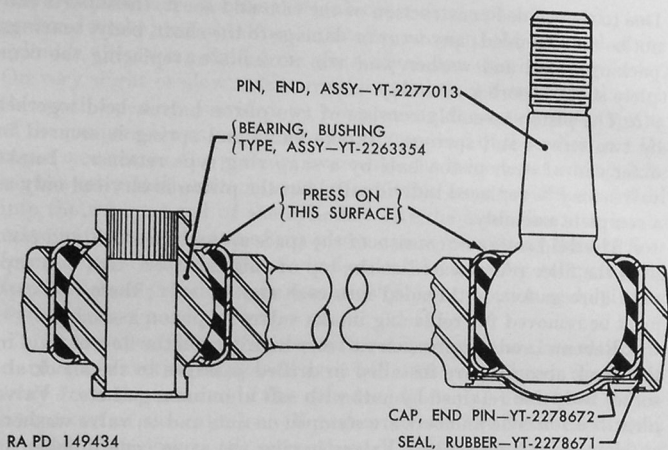

Figure 207. Sectional views of front torque rod ends.
*a. Bearing Removal.*—Using a driver to exert force on rounded edge of bearing case at point shown in figure 207, press bushing type bearing assembly out of torque rod end.
*b. Bearing Installation.*—Press new bushing type bearing assembly into torque rod end, using a driver which will exert force on rounded edge of bearing case at point shown in figure 207. Press bearing in until it is centered in torque rod end.
*c. End Pin Removal.*—Using a small sharp chisel, cut off eight staked lugs which secure end pin cap in torque rod end. Using a driver over end pin which will exert force on rounded edge of bearing case at point shown in figure 207, press end pin assembly, rubber seal, and end pin dust cap out of torque rod end. File stake marks back flush with inner circumference of torque rod end.
*d. End Pin Installation.*—End pin assembly (fig. 207) must be installed in torque rod end with tapered end pin opposite the side having the stake marks. Press new end pin assembly into torque rod end, using a driver over end pin which will exert force on rounded edge of bearing case at point shown in figure 207. Press in to approximate position shown in figure 207; then install rubber seal and end pin cap and secure in place by staking at eight places. Press end pin assembly in further to compress rubber seal between bearing case and end pin cap, using care not to force cap past the stake marks.